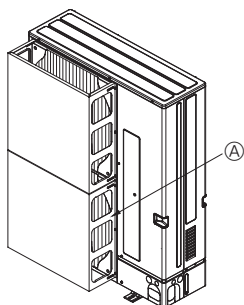
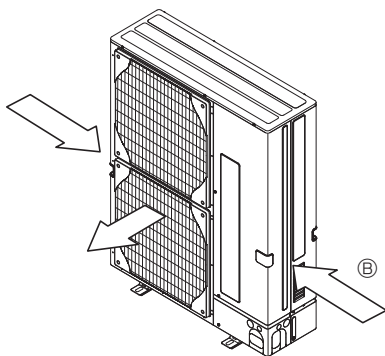

Fig. 2-4
Fig. 2-5
- Install an optional air guide if the unit is installed in a location where strong winds from a typhoon, etc. may directly enter the air outlet. (Fig. 2-4)
- ④ Air protection guide
- Position the unit so that the air outlet blows perpendicularly to the seasonal wind direction, if possible. (Fig. 2-5)
- ⑤ Wind direction